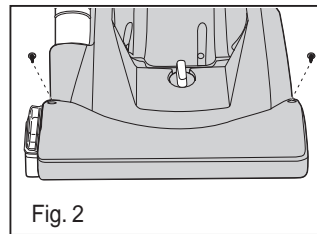

Fig. 2
- 2) Remove 2 screws from the front side of brush roll cover (Fig. 2).
- 7) Replace brush roll cover (Fig. 2).
- 2) Base hose – remove 2 screws and brush roll cover. Clear blockage from base hose. Check for debris in brush roll and replace screws and cover (Fig 2).